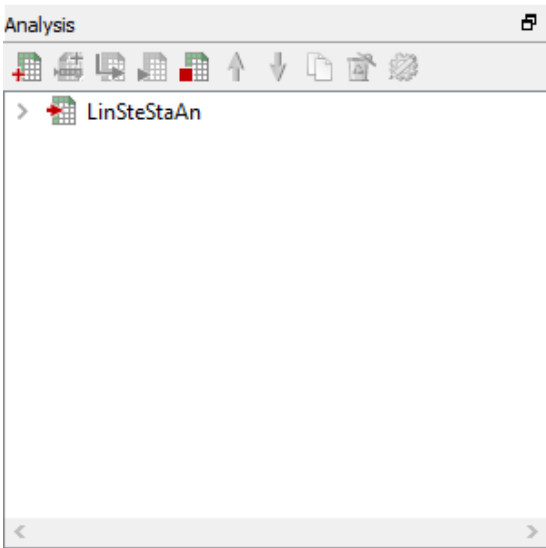

Figure 19: Analysis window
- Analysis browser** → Analysis1  → Rename  → LinSteStaAn [Fig. 19]